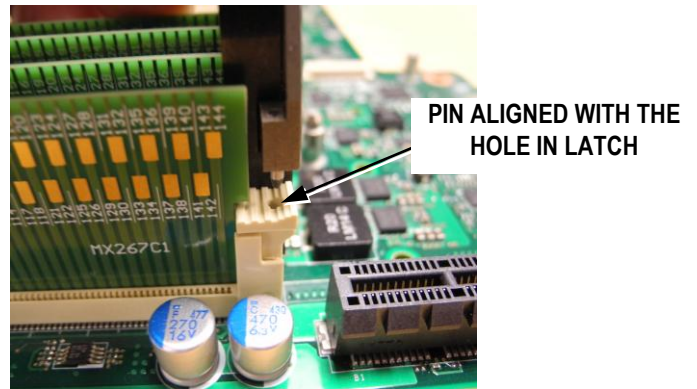

Figure 3
4. The lips on the tool frame will stop on the socket housing. At this point, the pins of the extraction tool should align to the holes in the socket latches. See Figure 3.